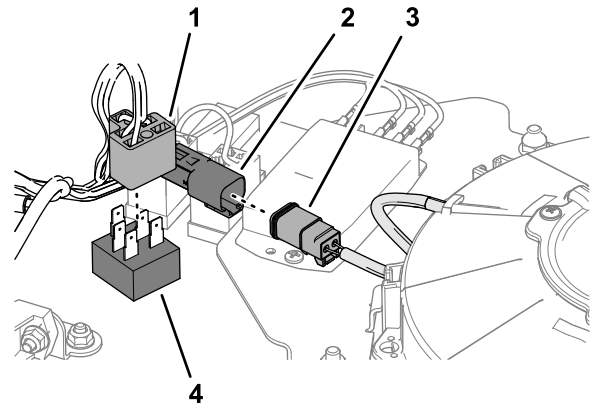

Figure 10
- Connect the 2-pin connector of the kit wire harness into the 2-socket connector of the cooling-fan harness (Figure 10).
- Connect the 5-pin connector of the fan switch into the 5-socket connector of the kit wire harness (Figure 10).